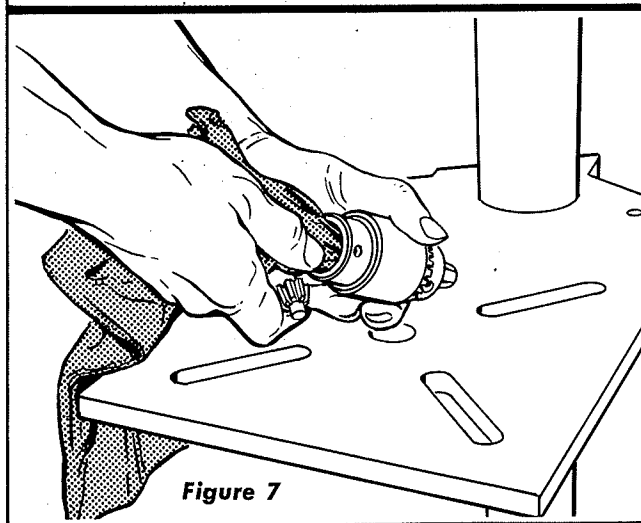

Figure 7
13. Clean the spindle taper and tapered socket in chuck body with a clean cloth. (See figure 7.) Make sure no foreign particles are left on these tapered surfaces that would prevent proper seating of the parts. Apply a light film of oil on spindle taper and place chuck on end of